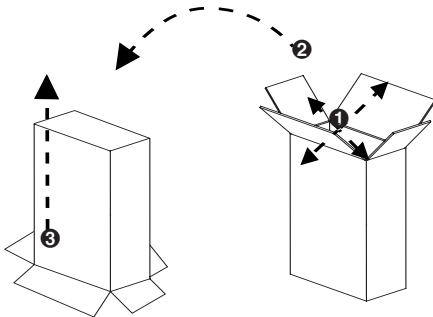

Figure 1: Unpacking the P81/P941
1. Place the packing carton in the upright position and fully open the top flaps, as shown in Step 1 of Figure 1.
2. Without allowing the top flaps to close, move the outer packing carton into an inverted position, as shown in Step 2 of Figure 1.
3. Lift the packing carton off of the loudspeaker, as shown in Step 3 of Figure 1. Use caution to avoid damaging the loudspeaker or frame clamps. At this point, the loudspeaker will be upside-down.